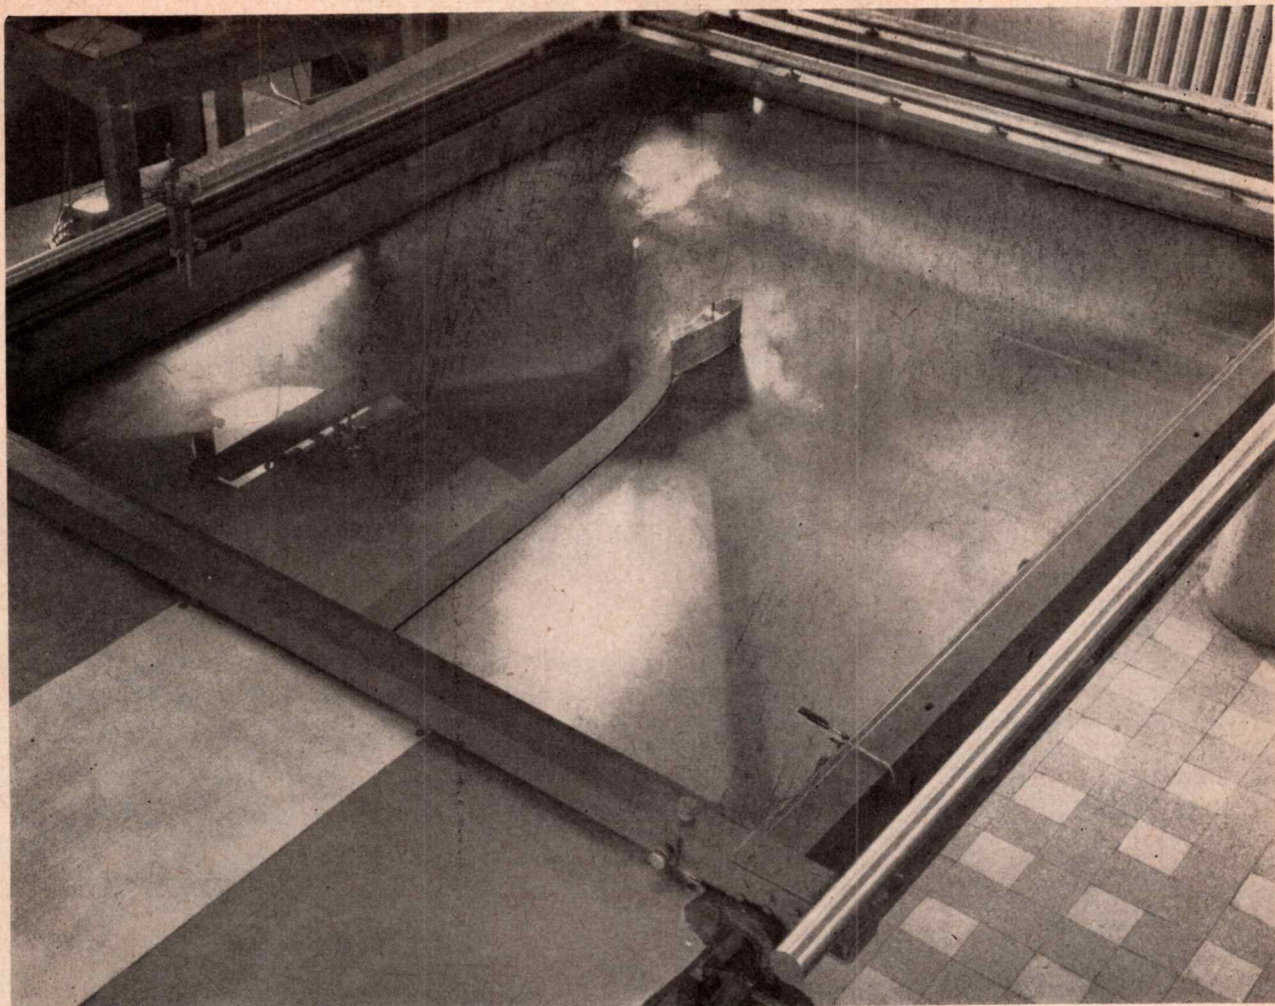
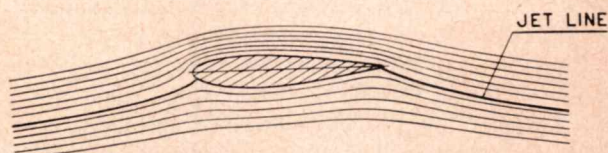
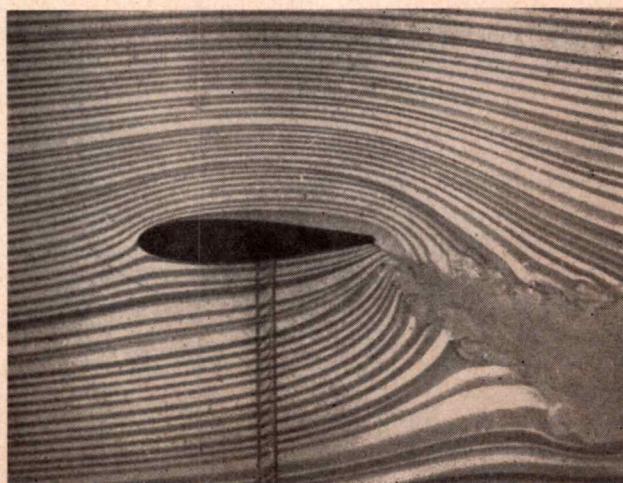

Figure 6—Tank for determining the streamlines.
Figure 7—Streamlines of two-dimensional airfoil with trailing-edge jet.
Figure 8—Visualization of the streamlines of an airfoil with jet in the water tank.
Assuming that the shape of the jet is only slightly influenced by the thickness of the airfoil, it is possible to take the shape defined by the linear approximation of Equation (22) and materialize it by extension of the airfoil in the form of a curved wall. To draw the streamlines, all that is necessary is to place a conductor model reproducing the airfoil and the jet contour in the middle of a two-dimensional tank with two parallel electrodes, as shown in Figure 6. The classical determination of the electrical equipotentials provides the streamlines of the flow. Such a determination is shown in Figure 7 for a NACA 0018 airfoil, with $\theta = 31.4^\circ$ and $C_{\mu} = 1$. The theoretical field can be compared with figure 8, which represents the visualization of a similar flow in a water tank.